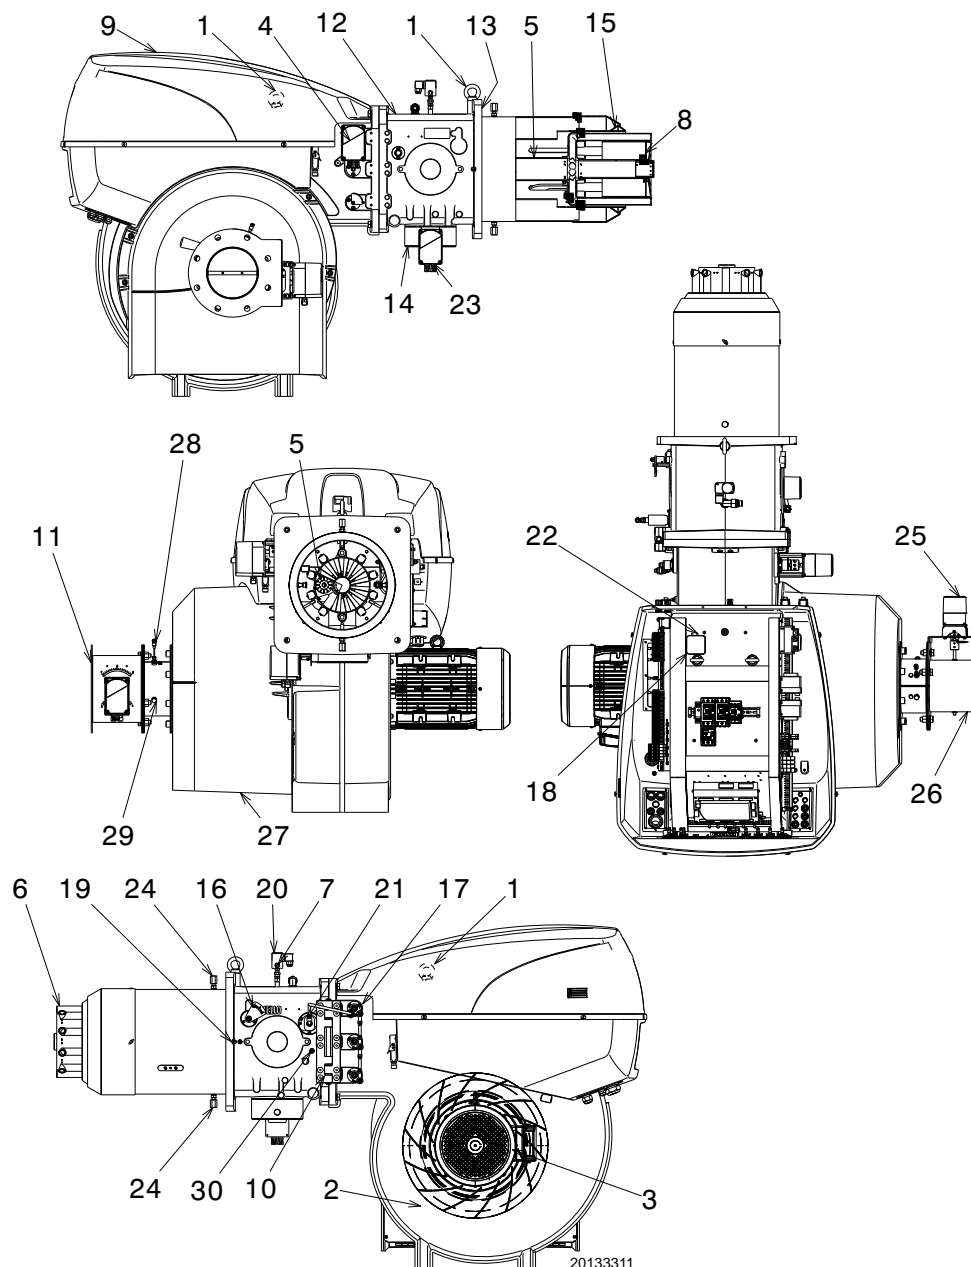

Fig. 4
- ⁽²⁾ Pressure on the socket 5) (Fig. 4) with zero pressure in the combustion chamber and at maximum burner output.